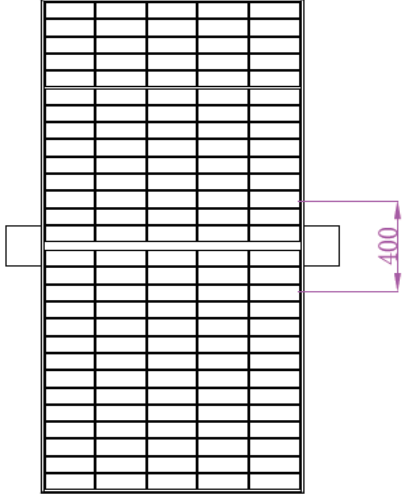

**Fig 5. PV module installed with Single-axis Tracking System**
- The frame of each module has 4- $\phi 7*10\text{mm}$  (0.28\*0.39in.) mounting holes with specific location shown in Figure 5.
- Secure the module in each fixing location with an M6 bolt, two flat washers, a spring washer and nut as shown in Figure 5.